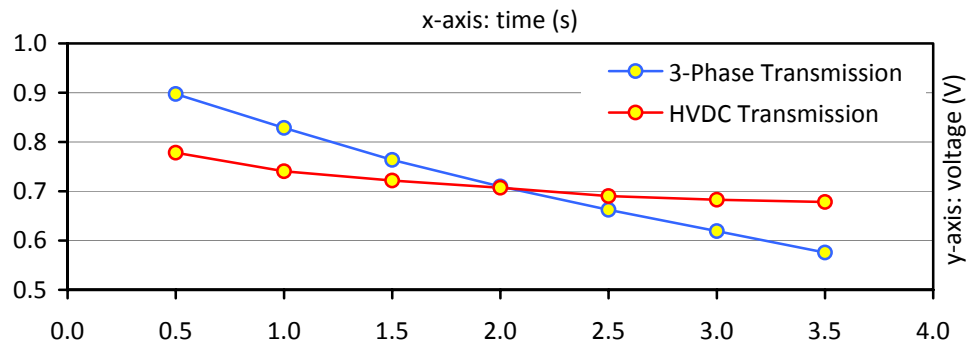

Figure 13: System Efficiency vs. Line Resistance for Three-Phase Systems in Lab #1 and #2 of ELC470
**Step #18: (pts)** How does this efficiency compare to that from Lab #1? Why is it the case? **Note** that, in that lab, the generator output 416.20W and load received 253.33W (per phase). Refer to Figure 13.